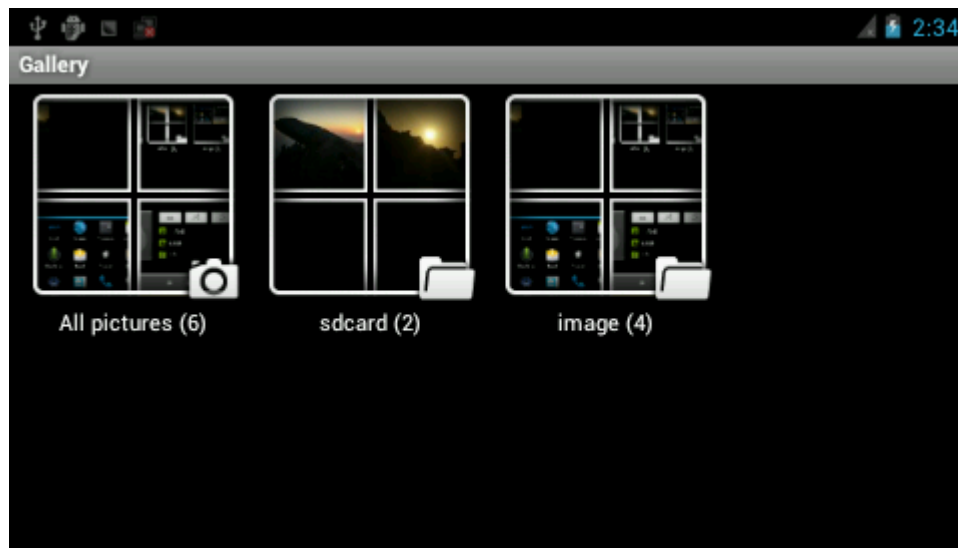

Figure 4-16
(2) Click "Gallery" and select a picture folder, Refer to figure 4-16: